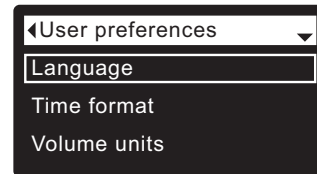

FIG. 63
7. Press the SELECT (O) button. The display will go back to the User preferences menu (Figure 63).